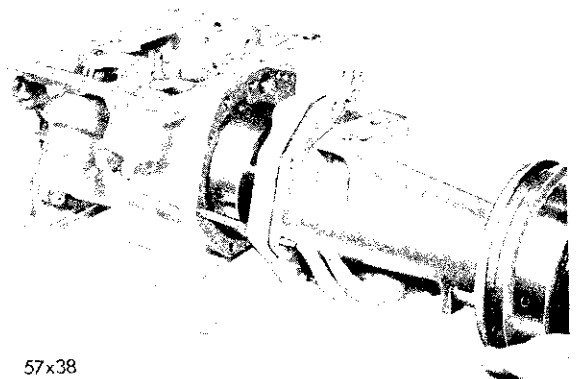

Fig. 41—Removal of Output Shaft Support, Extension, Handbrake Assembly and Pinion Carrier Housing as an Assembly
(1) Remove the screws and lockwashers from the transmission extension and install guide studs, Tool C-3283.
(2) Remove the output shaft support to case screw and washer and remove the extension housing (with brake assembly), output shaft support and planet pinion carrier housing as one assembly as shown in Figure 41.
(3) Slide the direct clutch piston retainer from torque converter reaction shaft (it is unnecessary to remove it from transmission case) and remove the direct clutch retainer thrust washer.
(4) Using a micrometer, measure the thickness of the washer and select washer to give correct clearance. Assemble as previously instructed.